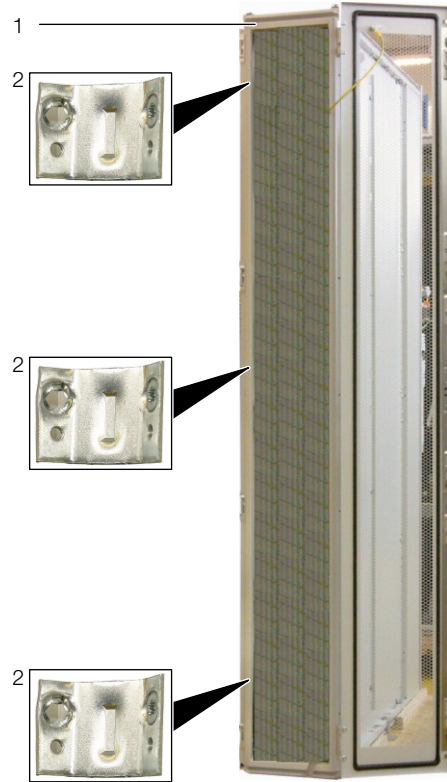

Fig. 3: Rear
- Using the corresponding assembly screws, fasten three baying connectors each (fig. 3, item 2) onto the attachment points provided in the mounting strips on the front and rear of the cable management enclosure (fig. 3, item 1).